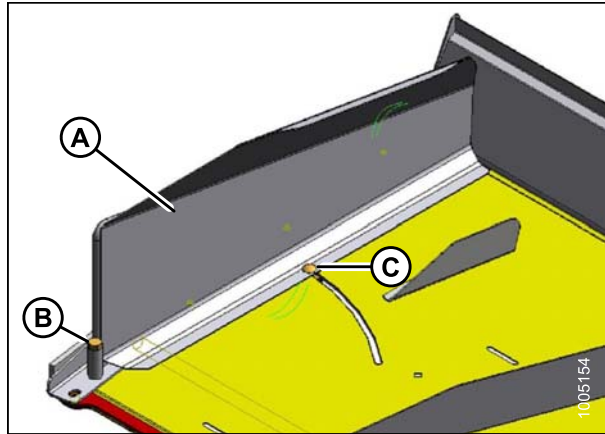

Figure 3.57: Side Deflector – LH
6. Position deflector (A) on cover as shown in Figure 3.57: *Side Deflector – LH, page 54* and install with hex bolt (B) and flange nut removed in previous step.
7. Tighten flange nut enough to hold deflector (A) in position, but still allow deflector to move.